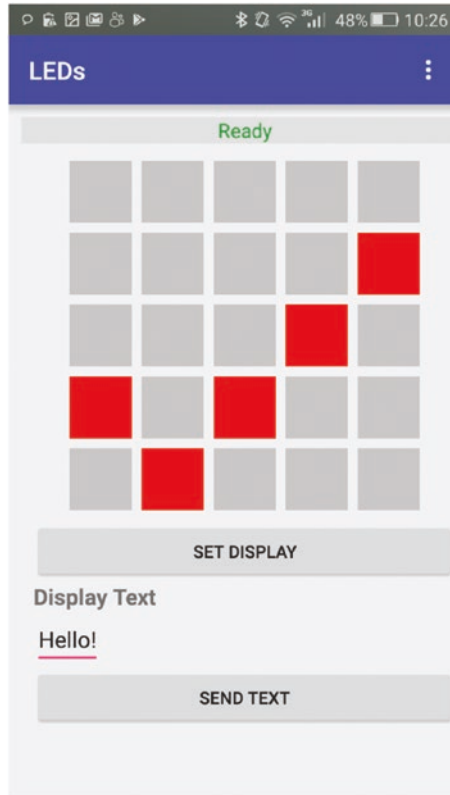

Figure B-26. Settings page for LED display
2. You will get the screen shown in Figure B-26.